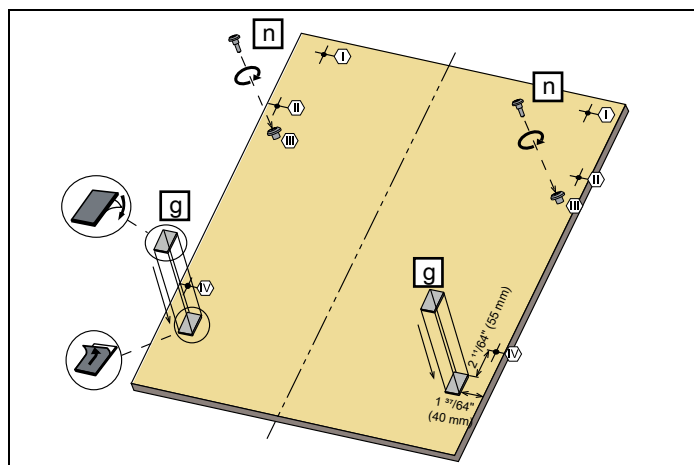

Fig. 20
- 3) As shown in Fig. 20 , Screws $\varnothing 5/32"$ x $27/32"$ (4mm x 21.5mm) are installed in positions III.
- 4) As shown in Fig. 20 , Wooden Door Fixing Strips are installed in the positions shown in the figure.